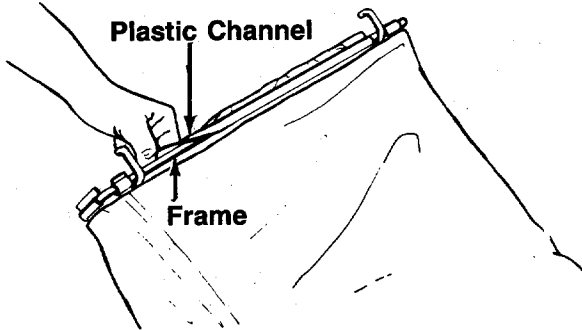

FIGURE 12.
3. Secure front of bag to frame by working the plastic channels on bag over frame. See figure 12.